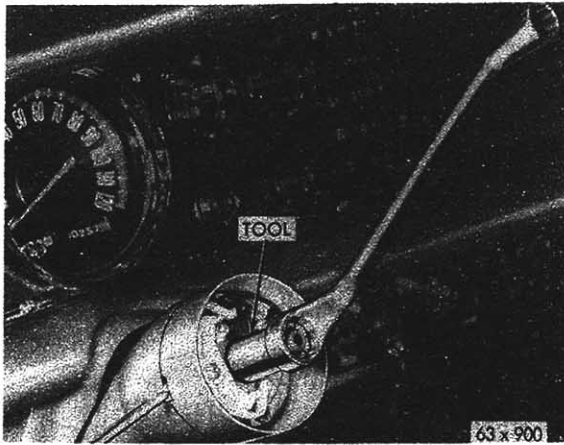

Fig. 17 - Installing the Bearing and Retainer Ring
- (6) Install the jacket tube support bracket clamp at the instrument panel. Tighten the clamp bolts to 50-inch-pounds torque.
- (7) Connect the directional signal wires and the horn wire at the connectors.
- (8) Install the directional switch lever.
- (9) Position the retainer ring against the top of the bearing and place the installing Tool Sleeve C-3879, then a flat washer and the steering wheel nut on the top end of the steering shaft in that order (Fig. 17).